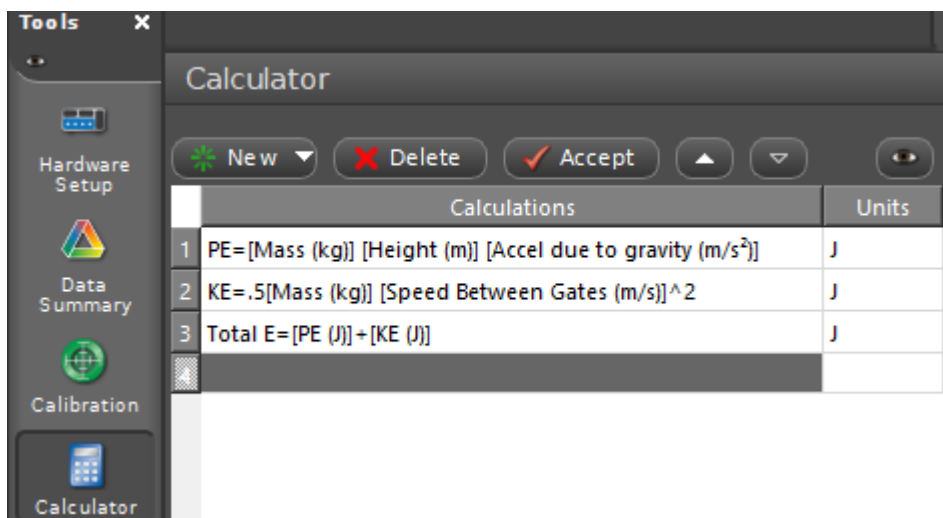

Figure 4: Capstone energy calculation
1. Create the following calculations (Fig. 4) in the Capstone calculator (all with units of J). Remember typing [will bring up user entered data columns, equations and constants.